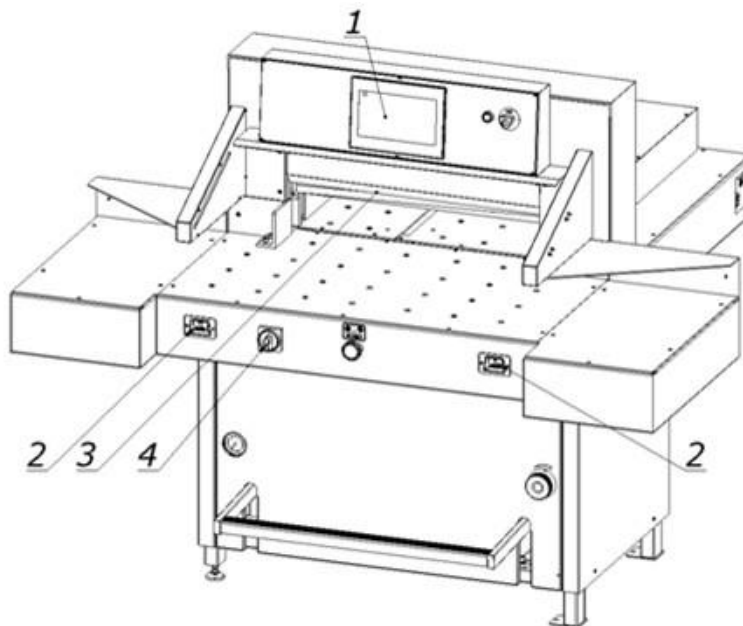

Figure 20.
1. Select the "Change knife" function on the programmer 1 screen (Fig.20) (Refer to the "Programming manual").
2. Pressing the push buttons 2 (fig.20) at the same time, start the cutting cycle. The knife 3 is held in the lower position.
3. Turn off the power supply of the electrical system by turning the main switch knob 4 (fig.20) to the "0" position